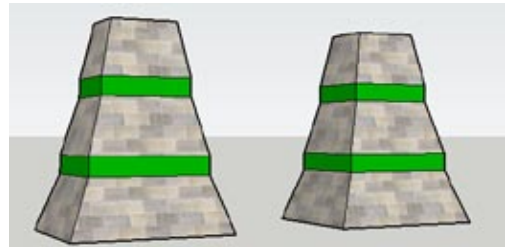

Figure 8-20
1. Download my Painting Multiple Faces model from the 3D Warehouse (Figure 8-20).